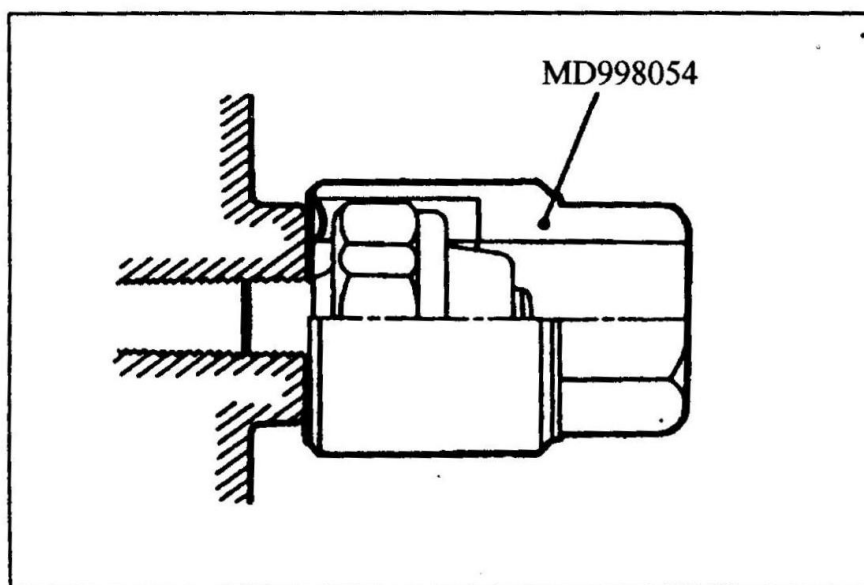

Fig 5-5
(6) Remove the oil pressure gauge. (See Fig 5-5).